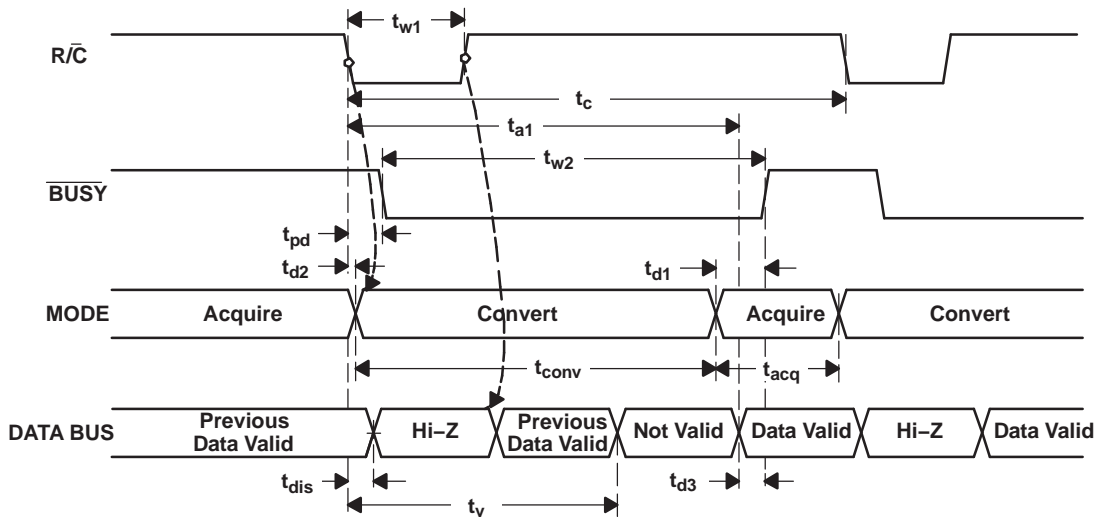
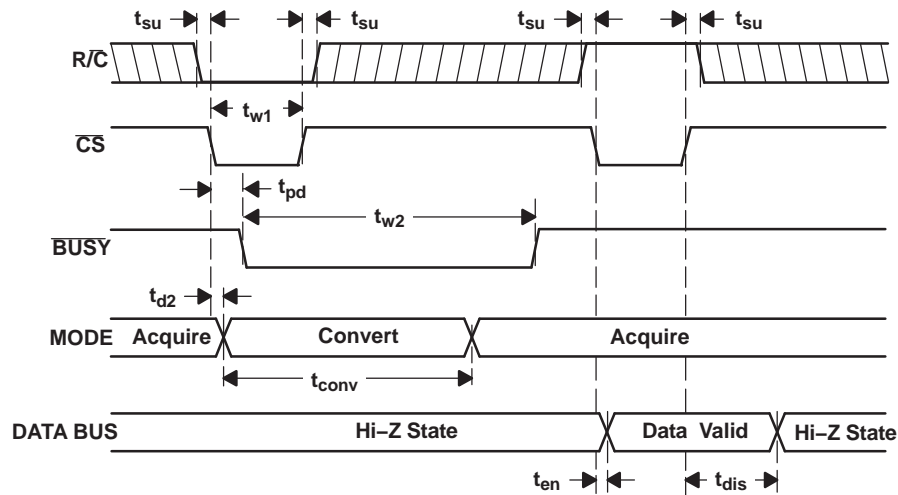
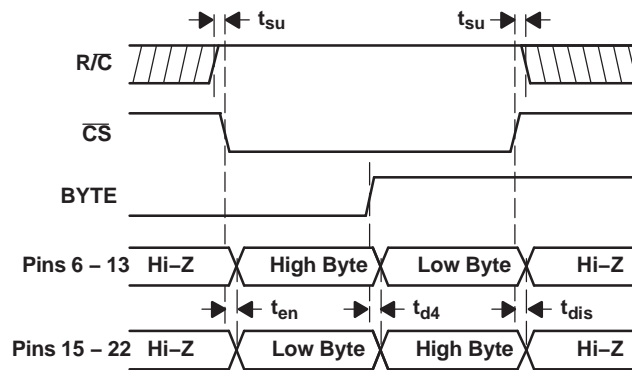

Figure 21. Conversion Timing with Outputs Enabled after Conversion ( $\overline{CS}$  Tied Low)
Figure 22. Using  $\overline{CS}$  to Control Conversion and Read Timing
Figure 23. Using  $\overline{CS}$  and BYTE to Control Data Bus
The ADS8515 begins tracking the input signal at the end of the conversion. Allowing 4  $\mu\text{s}$  between convert commands assures accurate acquisition of a new signal. Refer to Table 1 for a summary of  $\overline{CS}$ ,  $\overline{R/C}$ , and  $\overline{BUSY}$  states and Figure 21, Figure 22, and Figure 23 for the timing diagrams.
(1) See Figure 21 and Figure 22 for constraints on data valid from conversion  $n - 1$ .
After conversion  $n$  is completed and the output registers have been updated,  $\overline{\text{BUSY}}$  (pin 26) goes high. Valid data from conversion  $n$  are available on D15 to D0 (pins 6 to 13 and 15 to 22).  $\overline{\text{BUSY}}$  going high can be used to latch the data. Refer to Table 3 and Figure 21, Figure 22, and Figure 23 for timing specifications.
After conversion  $n$  has been initiated, valid data from conversion  $-1$  can be read and are valid up to  $t_2$  after the start of conversion  $n$ . Do not attempt to read data from  $t_2$  after the start of conversion  $n$  until  $\overline{\text{BUSY}}$  (pin 26) goes high; this may result in reading invalid data. Refer to Table 3 and Figure 21, Figure 22, and Figure 23 for timing specifications.
The number of control lines can be reduced by tying  $\overline{\text{CS}}$  low while using the falling edge of  $\overline{\text{R}/\overline{\text{C}}}$  to initiate conversions and the rising edge of  $\overline{\text{R}/\overline{\text{C}}}$  to activate the output mode of the converter. See Figure 21.